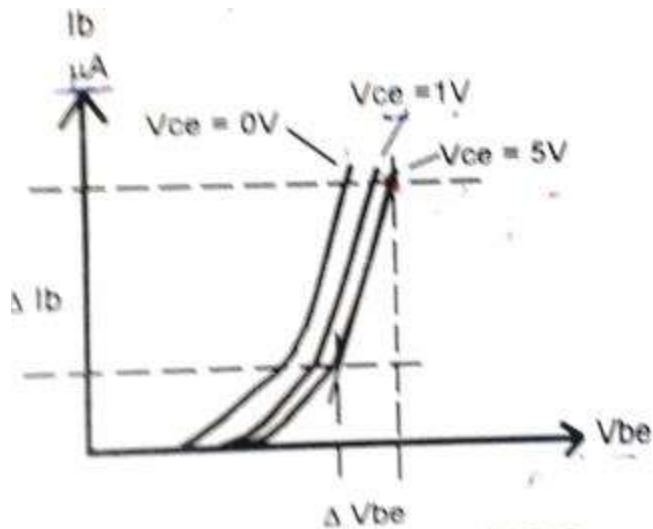

Fig.2 Input characteristic curve
4. Plot the input characteristic curve from the observations between I_B and V_{BE} . Find out the slope of the curves as given in relation see fig2.